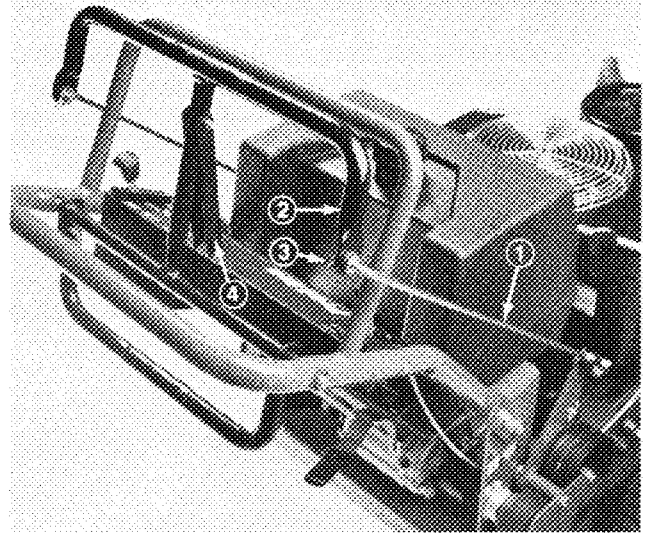

Figure 8
5. Brake rods should be adjusted so parking brake lever can be swung into a snug position against the upper handle while pulling back on upper control bar (Fig. 8).